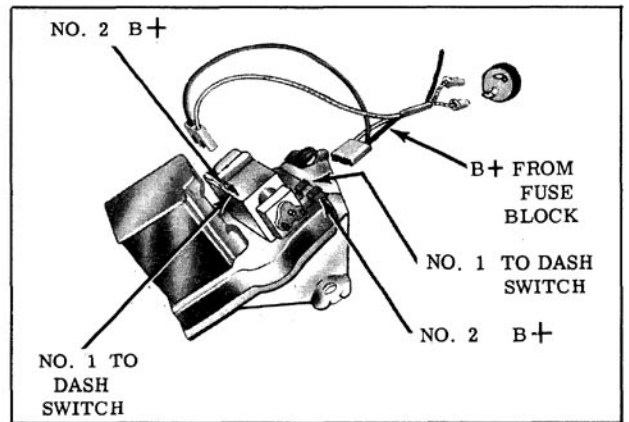

Fig. 13-156 Checking Connections
2. If all items in Step 1 check out, start wiper motor only, then push washer button and listen for "click" as washer relay pulls in. If no "click" is heard, check for 12 volts at terminal No. 2. (Fig. 13-156) No voltage indicates defective wiring. If "click" is heard, proceed to Step 4.
3. If correct voltage was found in Step No. 2, connect a jumper wire from terminal No. 1 to ground (Fig. 13-156) and operate wiper. If washer relay "click" is heard and pump functions correctly, a defective dash switch or an open circuit between washer pump and dash switch is indicated - "No Click" indicates an open relay coil.